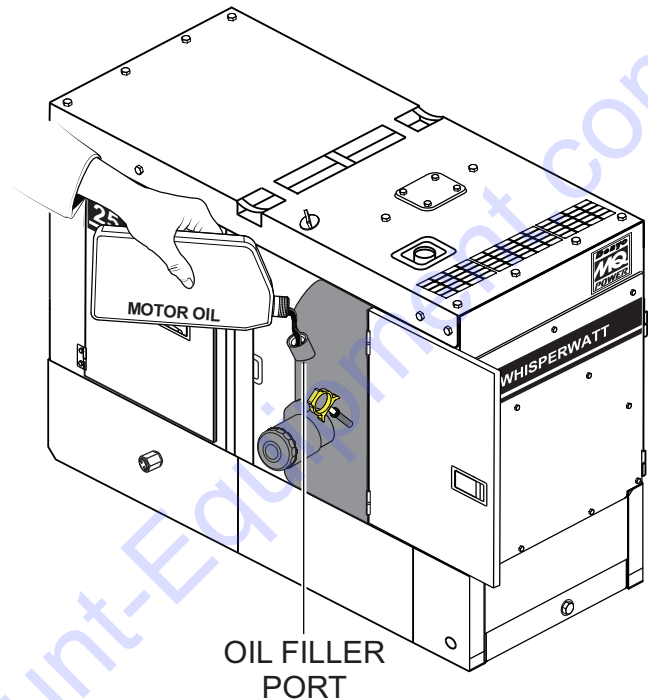

**Figure 28. Engine Oil Dipstick**
3. Reinsert the dipstick, then remove the dipstick from its holder. Check the oil level shown on the dipstick (Figure 28).